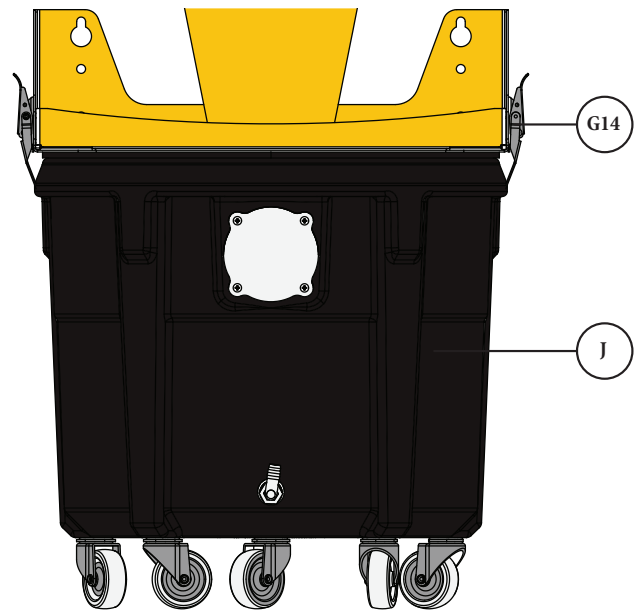

FIG. 31
Center the Drum Assembly (J) underneath the Wall Bracket (F) and lower the Latches (G14) so that they hook underneath the rim of the Drum (J) [FIG. 31]. The Latches (G14) can then be closed to lift the drum up from the ground and seal the dust collector for operation.